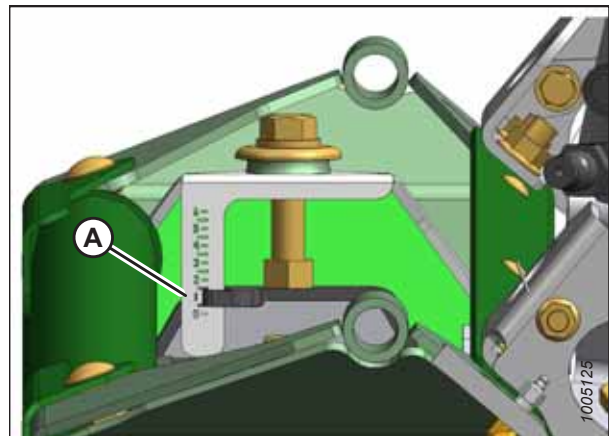

Figure 3.95: Roll Gap Gauge
- Refer to Figure 3.95, page 64: Ensure that the roll gap is at 1.5 line (A).